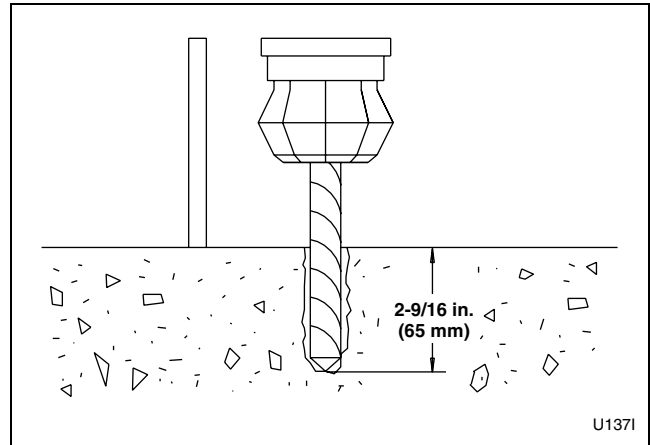

Figure 3
5. Drill the holes to the set depth. Refer to *Figure 3*.